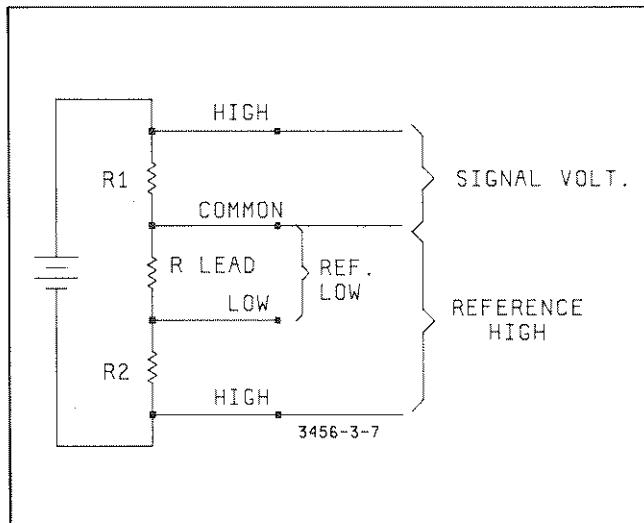

Figure 3-7. Typical Ratio Measurement.
c. Typical Ratio Measurement. Matching resistor values for an accurate voltage divider is one way to use the 3456A's Ratio feature. Try this by using the set up in Figure 3-7. Connect the instrument as indicated in the figure. Make sure that REFERENCE LOW is connected at the top of R2 and that Signal (Volts) Common is connected at the bottom of R1. Once the instrument is connected and placed in the DCV/DCV Ratio mode, a Ratio Measurement is made. The voltage drop across R1 and R2 is measured including any offset voltages between Signal Common and Reference Low. The offset voltage is used to compensate for any error causing voltages between the input and resistors. Once all the measurements are taken, the Ratio Measurement is displayed on the front panel. If the resistors are equal in value, the reading should be approximately “-1.00000”.